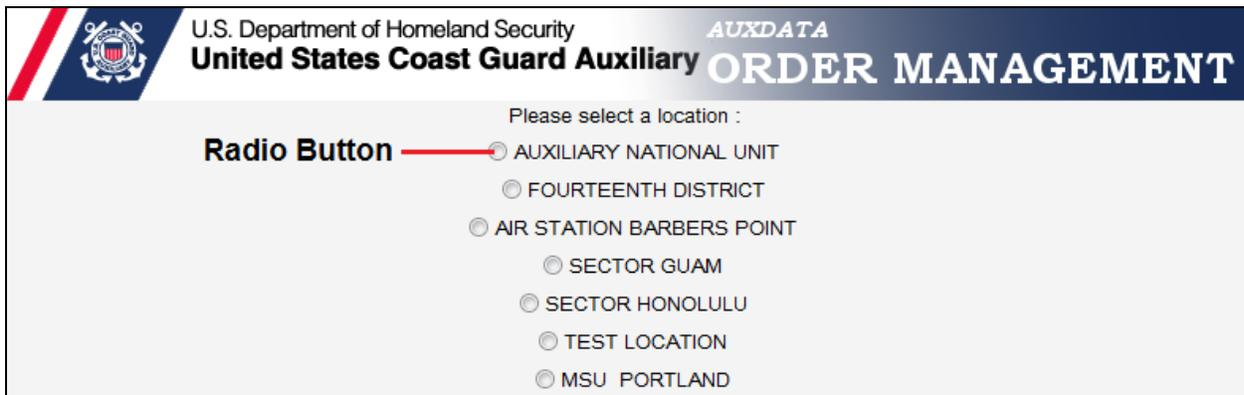
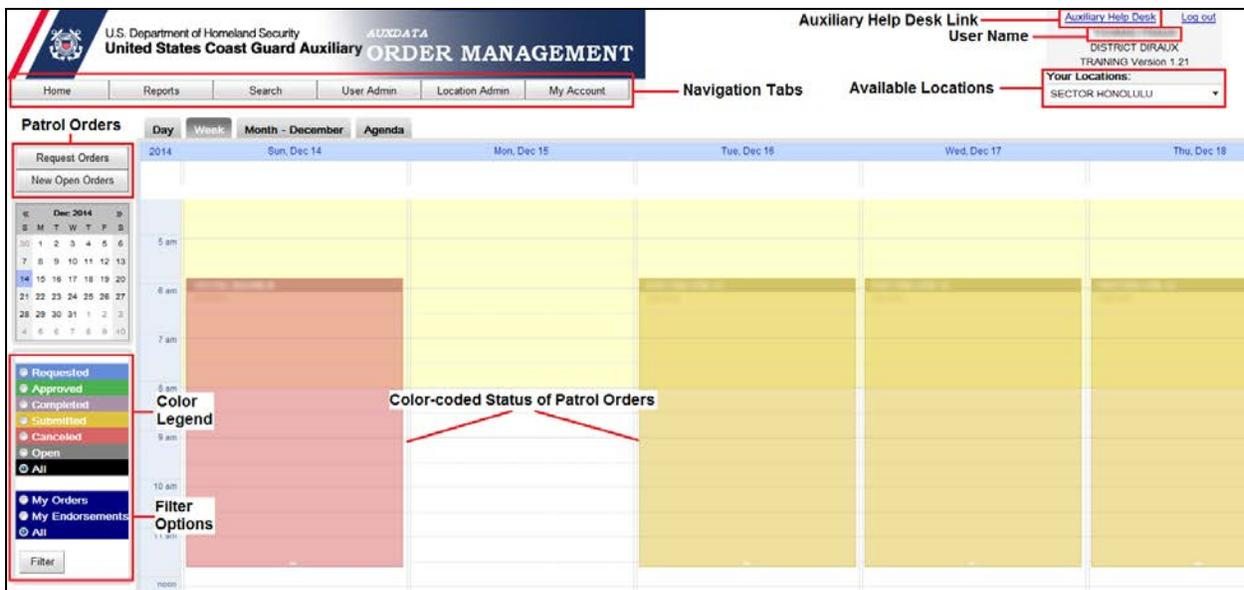

Figure 2-4 Location Selection Screen
Figure 2-5 AOM Main Menu
- If a user has multiple available locations, the Location Selection screen appears similar to Figure 2-4. Users without multiple locations go directly to the AOM main menu, as shown in Figure 2-5.
NOTE: The example in Figure 2-5 shows the available options for a District DIRAUX. Certain tabs and buttons shown in the figure and functions discussed below may or may not be available depending on a user's role and permissions.
The **Home** button allows users to view daily, weekly, and monthly calendars and agendas through those respective tabs on the **Home** page. The calendar is color-coded and allows users to filter by patrol order status (Requested, Approved, Completed, Submitted, Canceled, Open, and All), by the user's orders, and by the user's endorsements, as shown in Figure 2-5. To use the filter, simply click the appropriate radio button to select the filter type, and then click **Filter**. The calendar will show just the items matching the filter criteria.